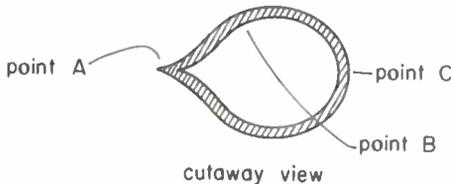

Fig. 15
(1) electron. (2) proton. (3) ion. (4) atom.
2. Figure 15 shows a cross-sectional view of a charged aluminum tube. You would expect the charge to be
3. In Fig. 15, the static charge at point B (which is on the inside surface) would be